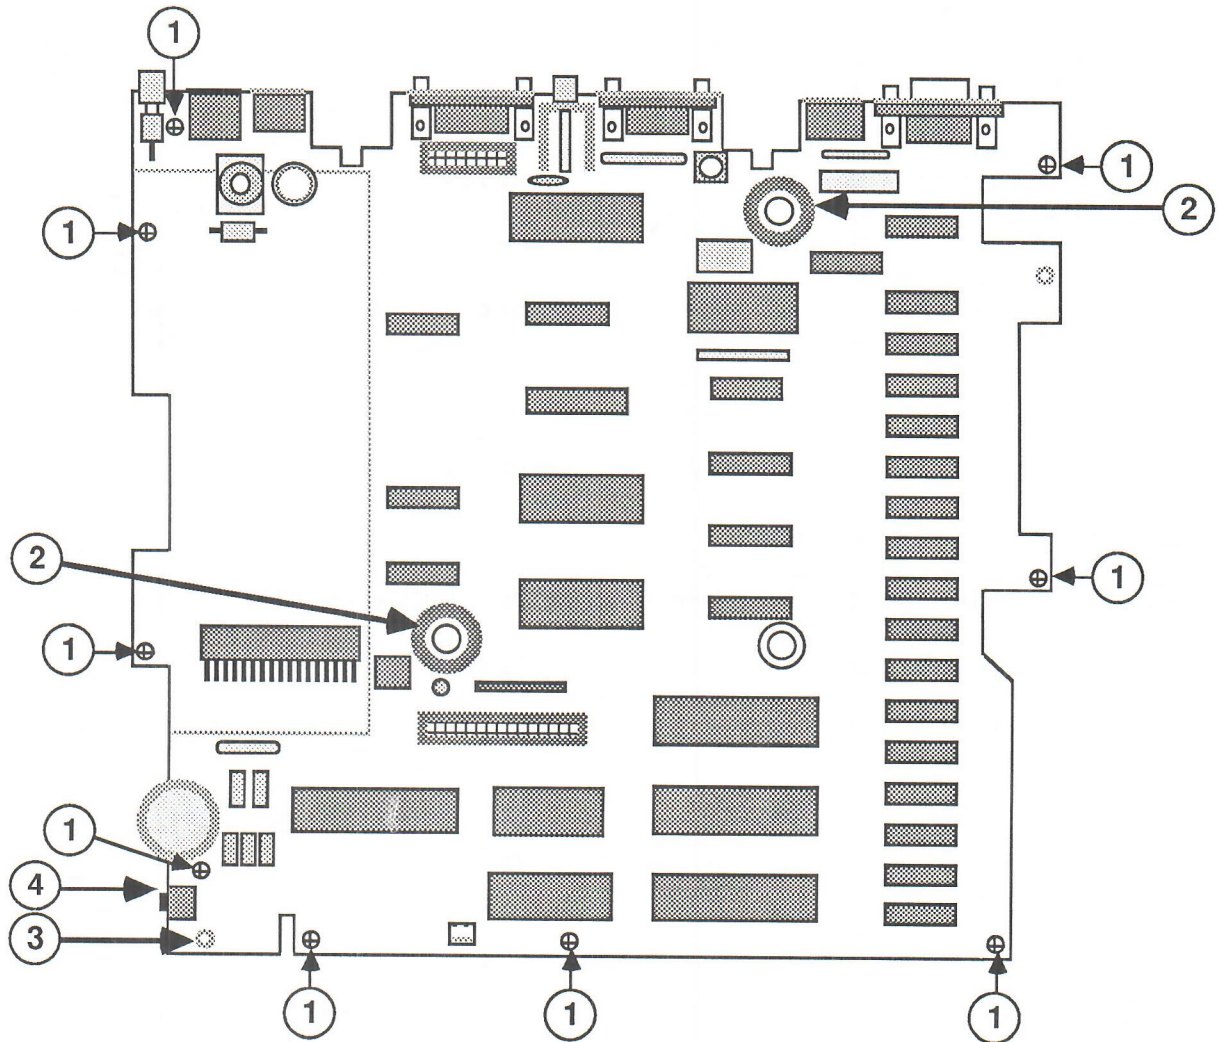

FIGURE 11
6. Remove the nine screws that attach the logic board to the case. (See Figure 11, #1.) Count to make sure you have all nine.
7. Remove the two wire-mesh toroids (Figure 11, #2).
8. Carefully remove the logic board by lifting it off its posts and then pulling it out to the right. Be careful of the small post at the front, near the headphone connector (Figure 11, #3).
2. Slide the logic board into place, left side first, making sure that the headphone connector (Figure 11, #4) is properly seated and that the board is seated on all posts.
4. Replace the two wire-mesh toroids on their posts. (**IMPORTANT:** The toroids must be on the correct posts to ground the disk drive. See Figure 11, #2.)